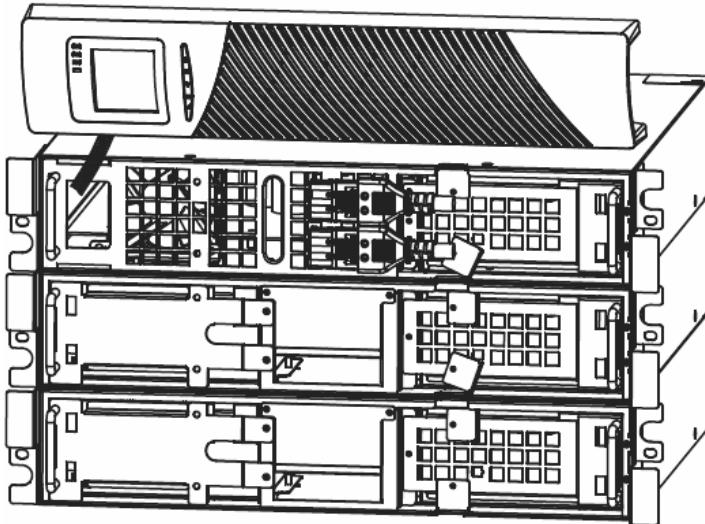

Figure13 Typical EBP Installation
3. For the bottom (or only) EBP, remove the EBP cable knockout on the top of the EBP front cover. See Figure 13 for the location of the top EBP cable knockout.
4. If you are installing more than one EBP, for each additional EBP remove the EBP cable knockout on the top and bottom of the EBP front cover. See Figure 13 for the location of the EBP cable knockouts.
5. Plug the EBP cable(s) into the battery connector(s) as shown in Figure 13. Up to four EBPS may be connected to the UPS. Connect black to black,. Press the connector tightly together to ensure a proper connection.